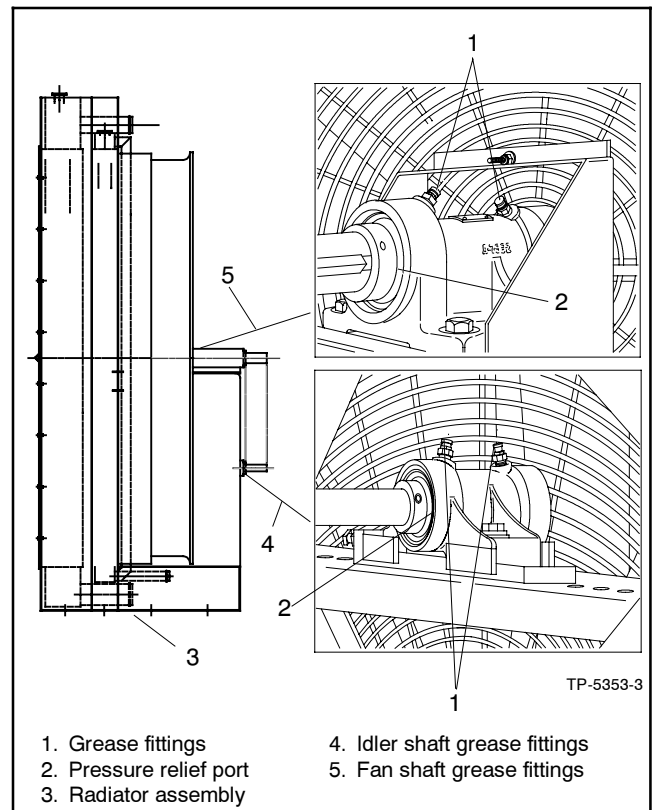

Figure 3-10 Radiator Fan Bearings and Pressure Relief Ports, Typical
4. Inject grease into the two bearings on the fan shaft block and the two bearings on the idler shaft block using a grease gun until a 3–6 mm (0.13–0.25 in.) grease column shows at the bearing pressure relief port. See Figure 3-10.